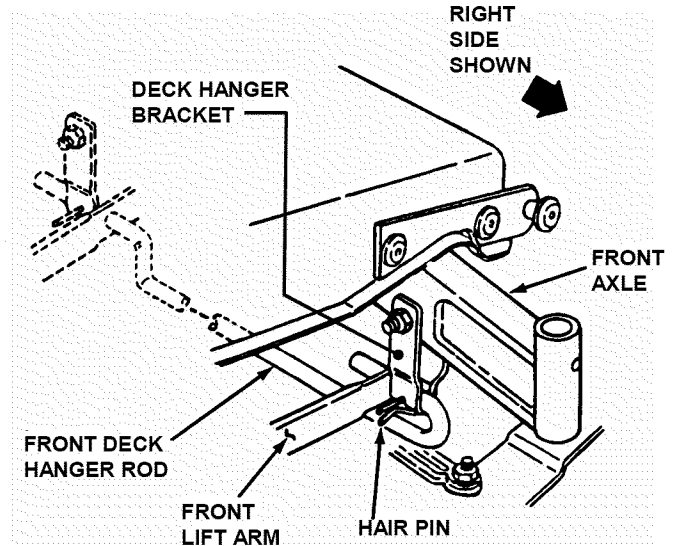

FIGURE 4.19
5. Remove hair pins from the front deck hanger rod and slide out the rod from deck hanger bracket. Front lift arms will now be disconnected. See Figure 4.19.